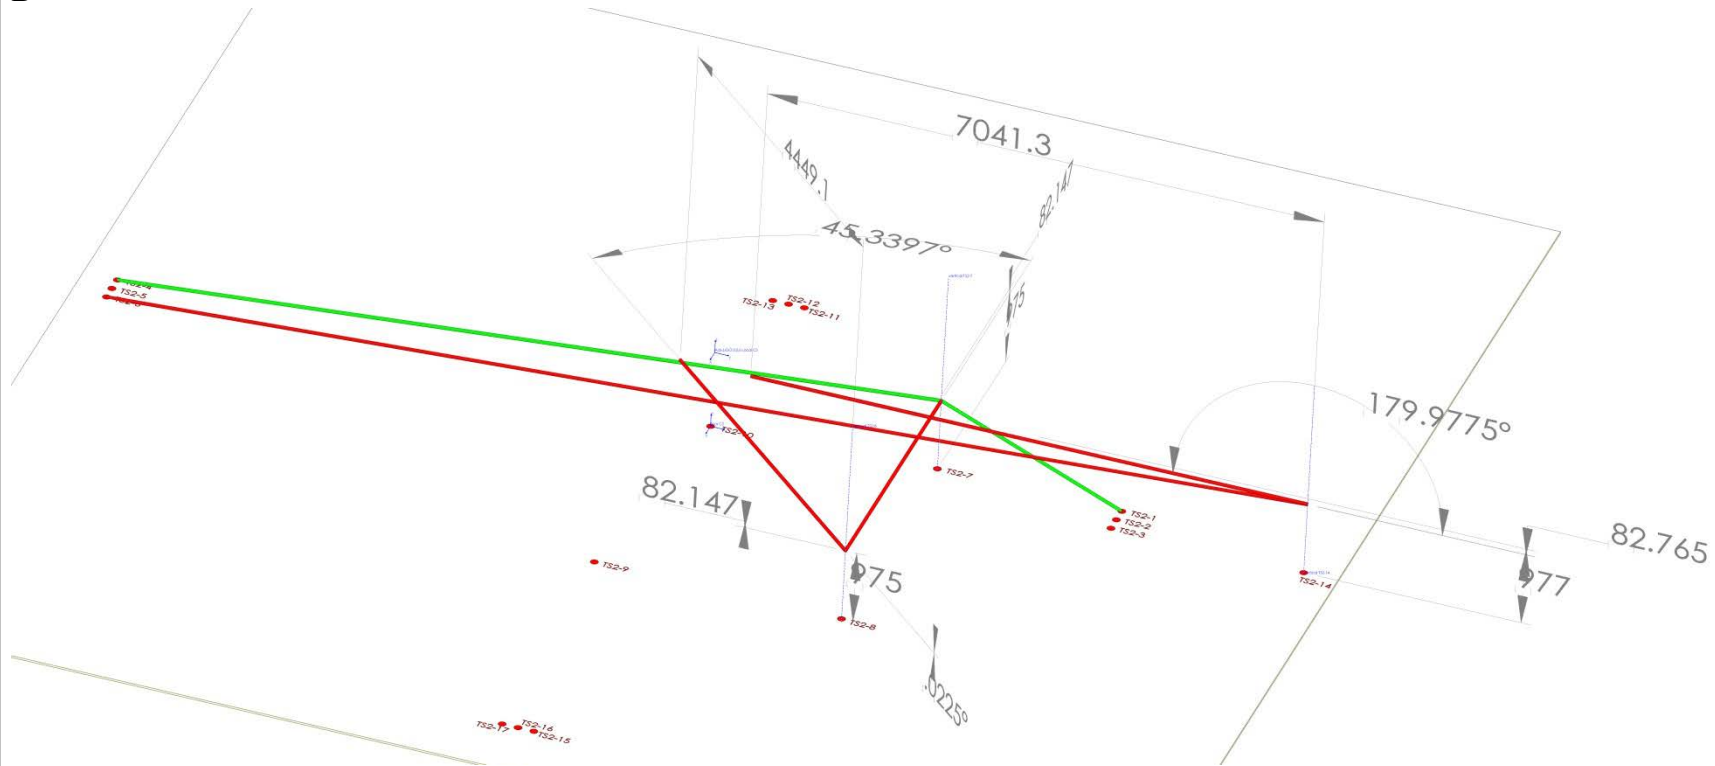

Figure 4: IAS Instrument Positions and LOS
The positions and Lines Of Sight (LOS) for the WBSC8 cartridge assembly alignment are depicted in Figure 3. The dimensional information associated with this alignment is depicted in Figure 4.
- Set the total station on TS2-14 and sight TS2-3 and TS2-6. See Figure 4